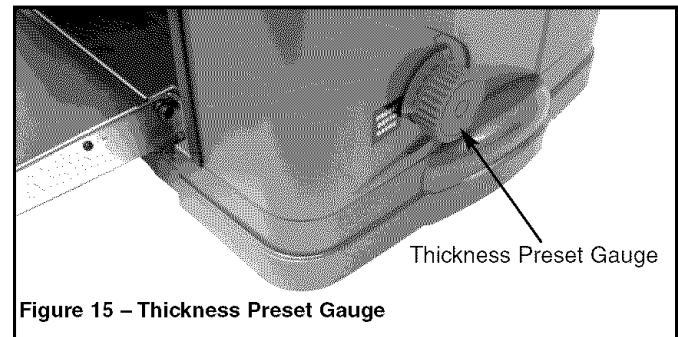

Figure 15 – Thickness Preset Gauge
Refer to Figure 15.
- Set the preset depth control knob at 1” (see Figure 15, page 7).